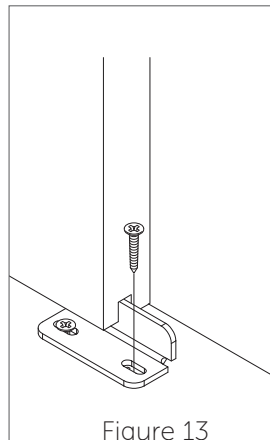

Figure 13
17. Install the second 1" Phillips screw (G) using a drill with a Phillips bit (Figure 13).